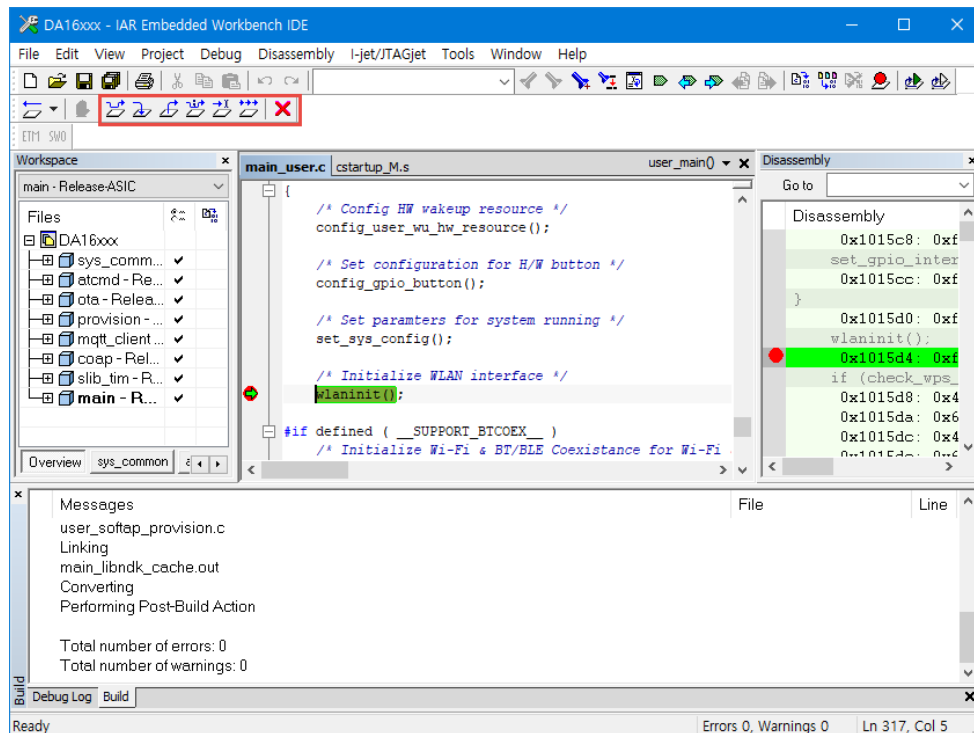

Figure 47: Break Point Window
8. Pause Window on Break Pointer. See Figure 47.